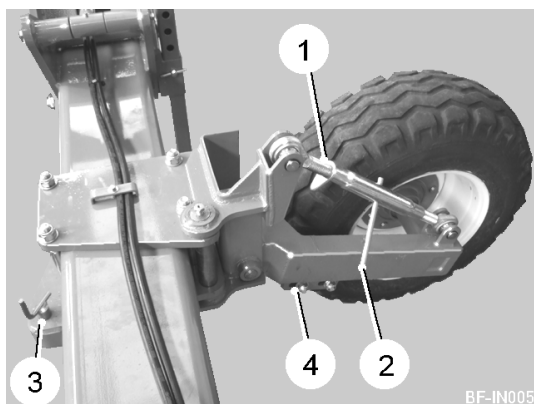

Fig 6
The depth wheels (4-bodied machines only) control the depth at which the ridger bodies work. To alter the working depth, loosen the adjustable link locking tab (item 1, fig 6) and turn the link bar (item 2, fig 6). Adjust both depth wheels evenly.
The depth wheels have a working position (as shown in figure 6) and a transport position. To set for transport, remove the locking pin (item 3, fig 6) and swing the depth wheel through 90°. Resecure with the locking pin.
The wheel scraper (item 4, fig 6) should be set as close to the surface of the tyre as possible without fouling it.